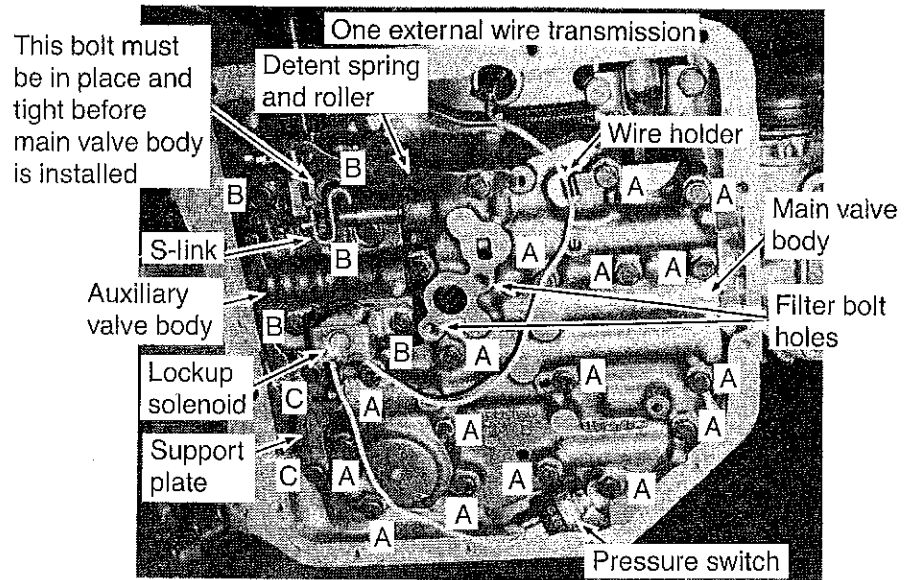
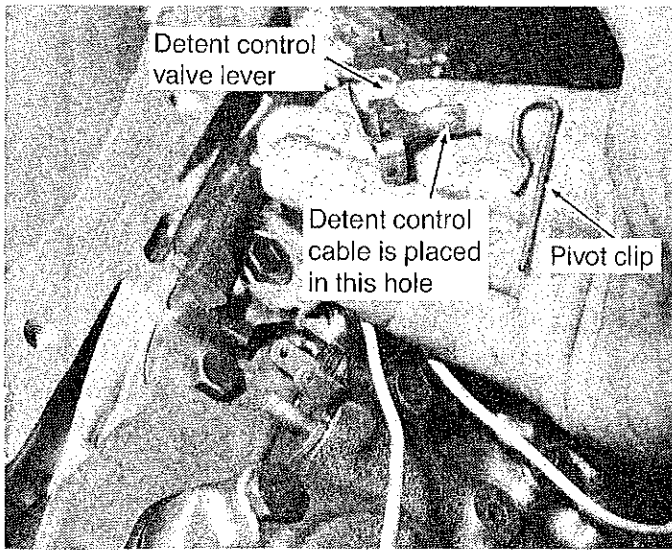

FIGURE 1
FIGURE 2
Step 3. Observe the location of the following: (See Fig. 1 and 1A) Manual linkage, detent roller and spring, S-link, main valve body, auxiliary valve body, lockup solenoid, pressure switch (this location may differ on some models), support plate, detent control valve link and lever (See Fig. 2)
wire(s) should be replaced in the original positions, so note which wire connects with which terminal. Remove the two lockup solenoid retaining bolts. Remove lockup solenoid and gasket from auxiliary valve body. Discard gasket. The lockup solenoid wires connected to the plastic transmission plug need not be disconnected. Remove lever (See Fig. 2). Set parts in tray. Remove main valve body attaching bolts and wire holders. Let lockup solenoid hang free.